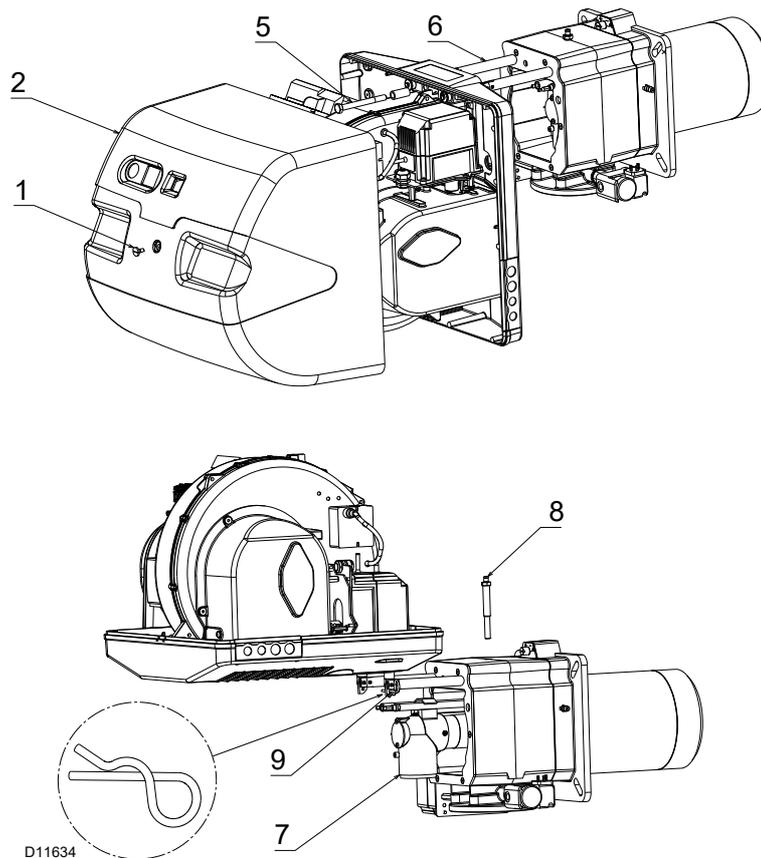

Fig. 40
- Loosen the screw 1)(Fig. 40) and remove the hood 2);
- turn it as indicated in Fig. 40, and insert the split pin 9) into the hole of one of the two guides so that the burner remains in that position.